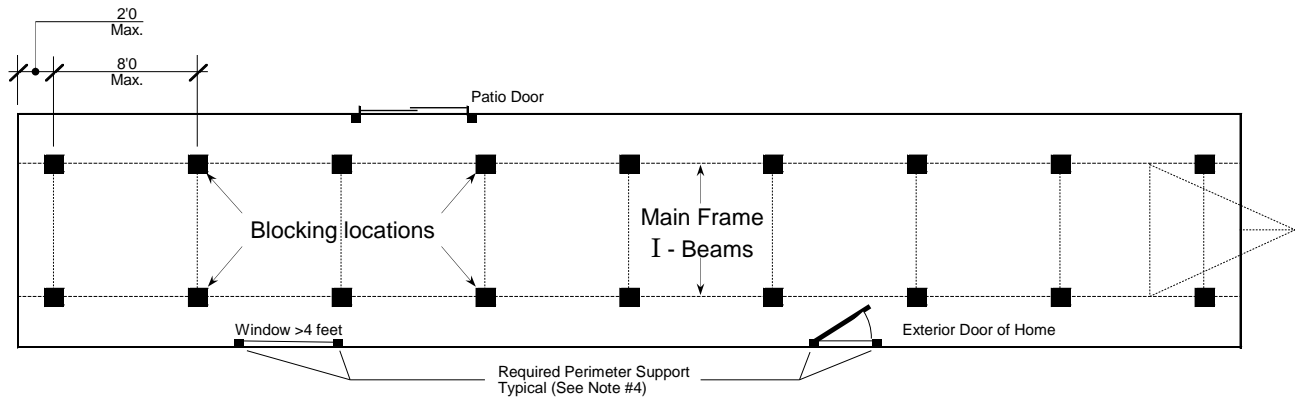

Figure 2 - Typical blocking diagram for single-section home when manufacturer's instructions are not available
1. Main frame I-beam blocking shall be spaced not more than 8 feet on center. See Figures 2 and 3 for example. A minimum of 18 inches of clearance must be provided between the bottom of the main frame and the ground/footing.
Notes: Applies to both Figures 2 and 3. See Pages 4 and 9 for Blocking/Pier/Support details.